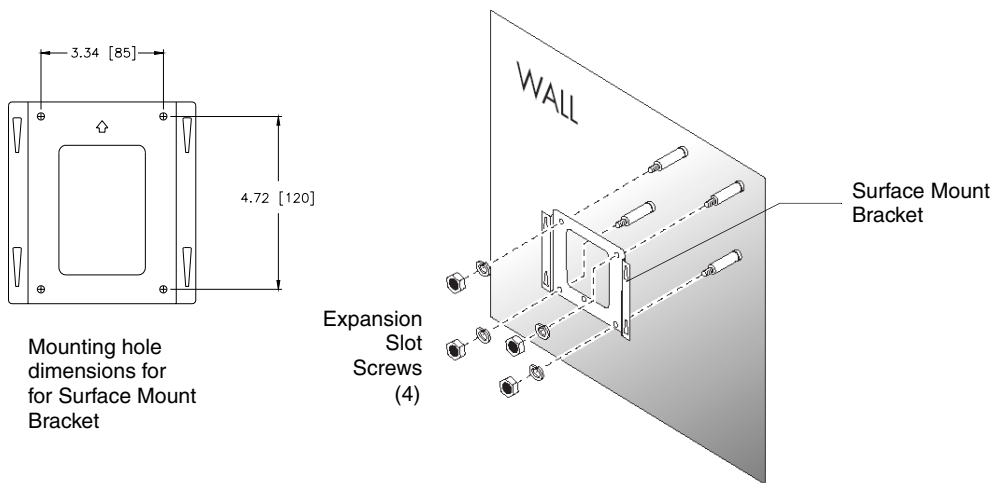

FIG. 14 Attaching the Surface Mount Bracket
4. Attach the Surface Mount Bracket to the surface/wall at the indicated drill locations by using the four expansion screws (FIG. 14).